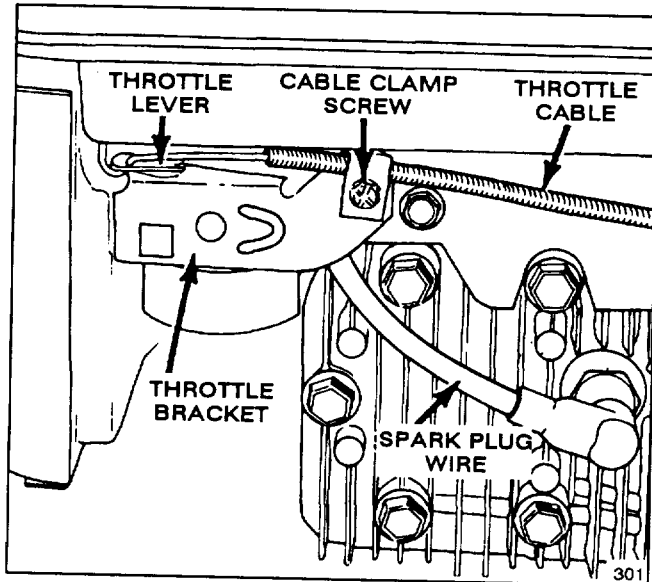
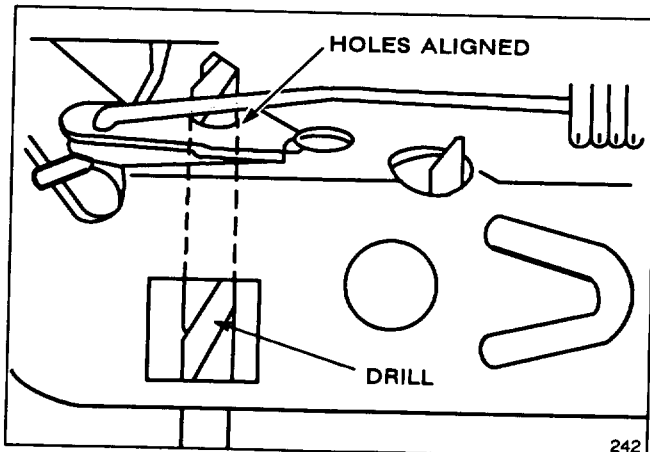

Figure 15
Figure 16
1. Stop engine and pull wire off spark plug (Fig. 15).
3. Loosen cable clamp screw until throttle cable slides (Fig. 15). Align holes in throttle lever and throttle bracket using a 1/8" diameter drill (Fig. 16). Tighten cable clamp screw to lock adjustment in place.